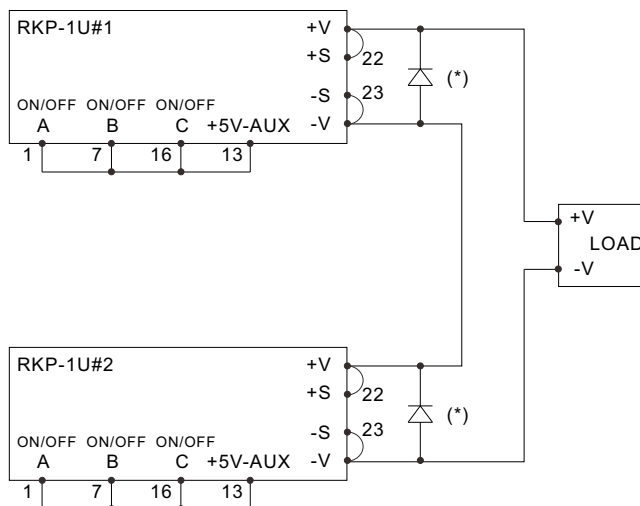

Figure 3-9 Operating in series connection
- ⊙The racks (RKP-1U□) connected in series should have the same single unit (RCP-2000-□) in each rack. Please refer to Figure 3-9 for the reference connection method.
- ⊙It is suggested to add on external diodes (*) shown in Figure 3-9 to prevent the reverse voltage. Rating of these diodes should be higher than the total amount of output voltage and current.